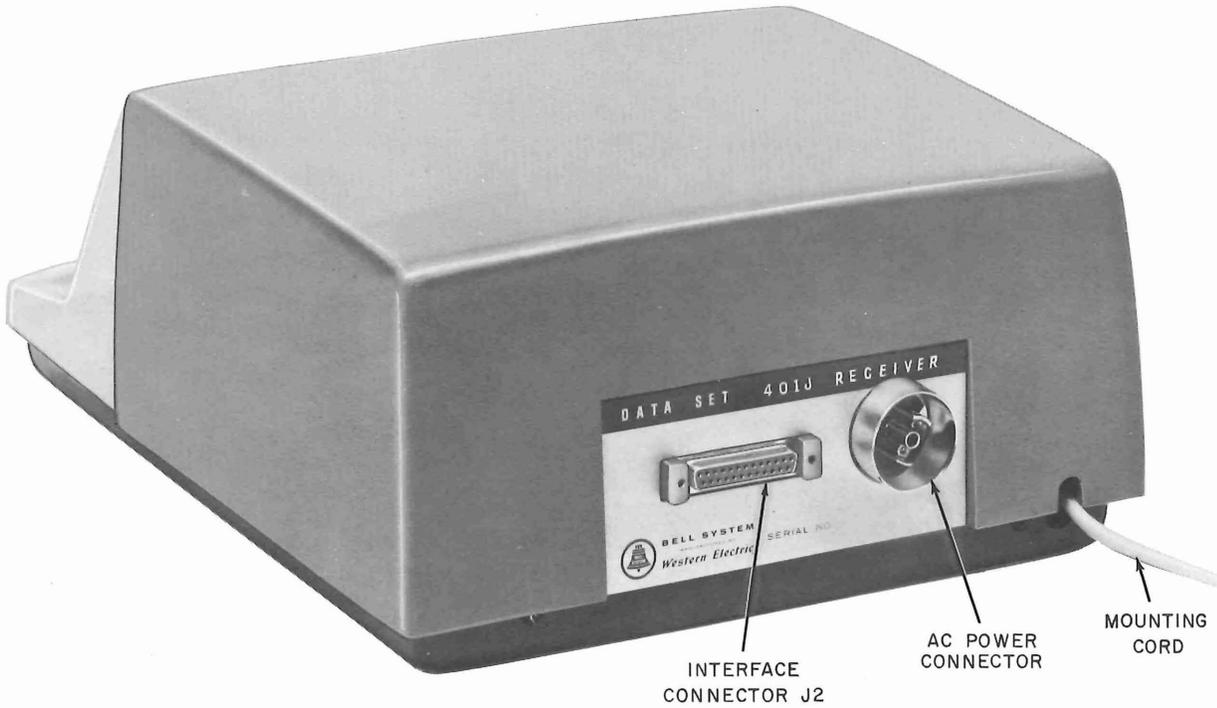

Fig. 5—Data Set 401J-Type, Rear View
3.02 The data set must be located within the range of the business machine interface connector cord, which is supplied by the customer. The interface connector cord should not exceed 50 feet in length and should connect to data set interface connector J2 as shown in Fig. 5.
3.03 Connect the data set mounting cord (see Fig. 5) to the telephone line connector block. For specific connection information on the data set mounting cord, refer to Part 4.
3.04 To complete the installation of the data set, apply power to the set. This is done by connecting the ac power cord (shipped with the data set) to the ac power connector on the data set (see Fig. 5) and to the customer-supplied ac outlet.